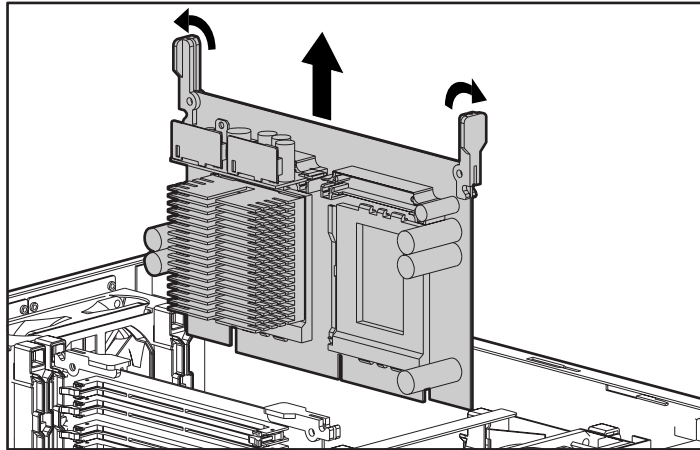

Figure 4-2. Removing the Pentium Pro Processor Board
1. To add a processor, remove one of the processor board as shown in Figure 4-2.